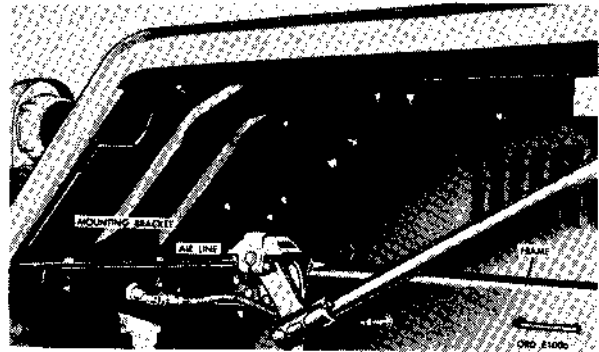

Figure 130. Air line removal.
(d) Disconnect and remove air line from left frame side rail and mounting bracket (fig. 130).
- (f) Install air line (fig. 130).